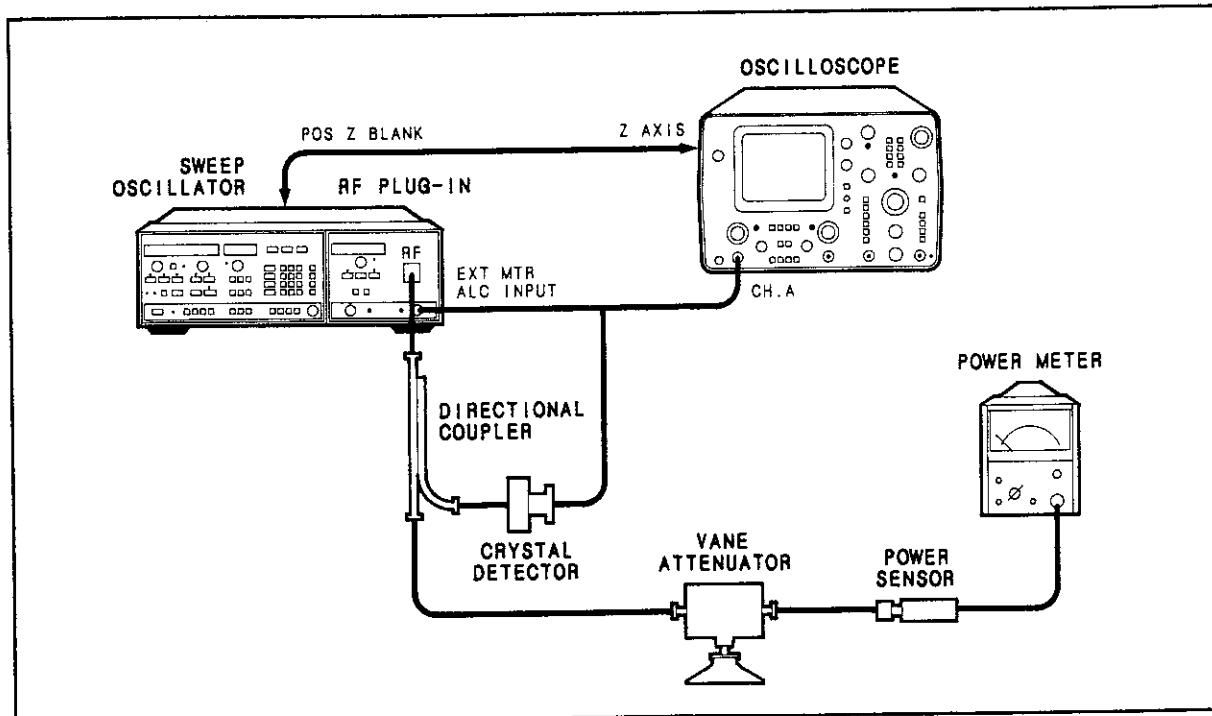

Figure 4-4. Crystal Detector Leveling Test Setup
4. Connect the equipment as shown in Figure 4-4. Set the vane attenuator to 10 dB.